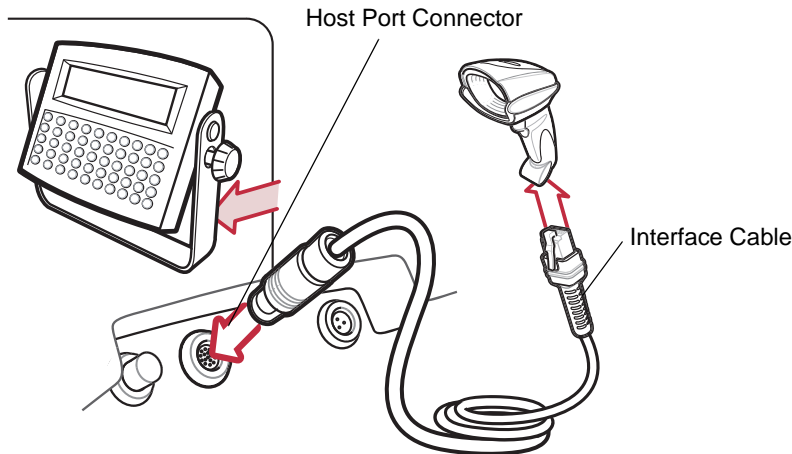
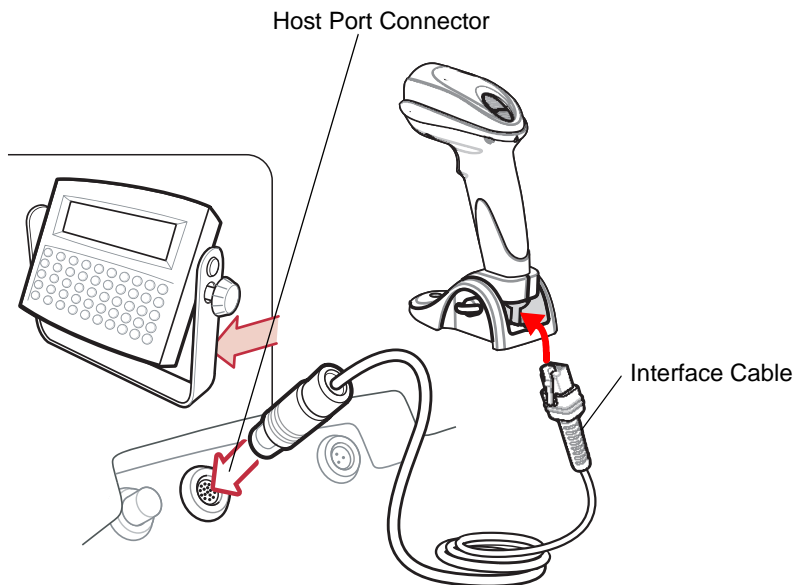

Figure 10-1 Scanner Emulation Connection
Figure 10-2 Scanner Emulation Connection for Scanner with Base
- ✓ **NOTE** Interface cables vary depending on configuration. The connectors illustrated in Figure 10-1 and Figure 10-2 are examples only. The connectors may be different than those illustrated, but the steps to connect the scanner are the same.